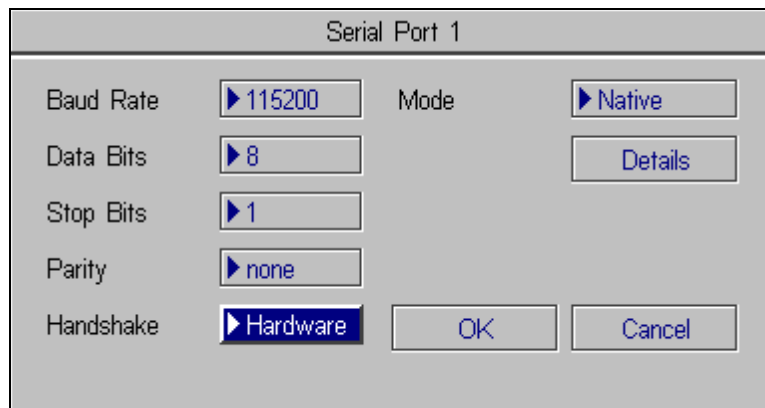

Figure A-6: Serial Port Dialog, Hardware Handshaking Enabled
4. Select Hardware from the Handshake drop-down list (Figure A-6).